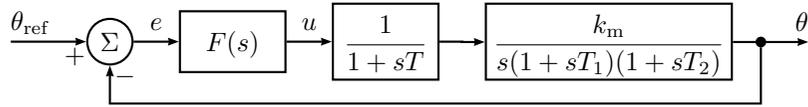

Figure 5.6a
5.6 A DC-servo is described by the block diagram in Figure 5.6a, where $T_1 = 50$ ms is a mechanical time constant, $k_m = 10$ is a proportional constant, $T_2 = 25$ ms is an electrical time constant, and $T = 10$ ms is an amplifier time constant. The system is tested with $F(s) = 1$ and we find that the dynamic properties are satisfactory but that the system is somewhat too slow. Find an $F(s)$ so that the closed loop system is twice as fast as for $F(s) = 1$, without increasing the overshoot. $F(s)$ should also give a closed loop system which fulfills the following accuracy demands: